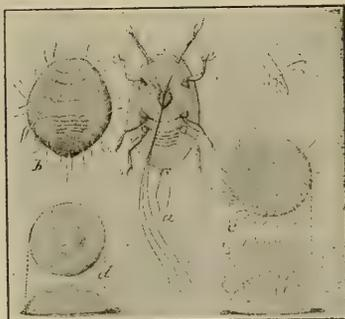

Fig. 133—San Jose Scale.
- 3. The larva begins to secrete the scale for a covering over its body. Fig. 133, c.